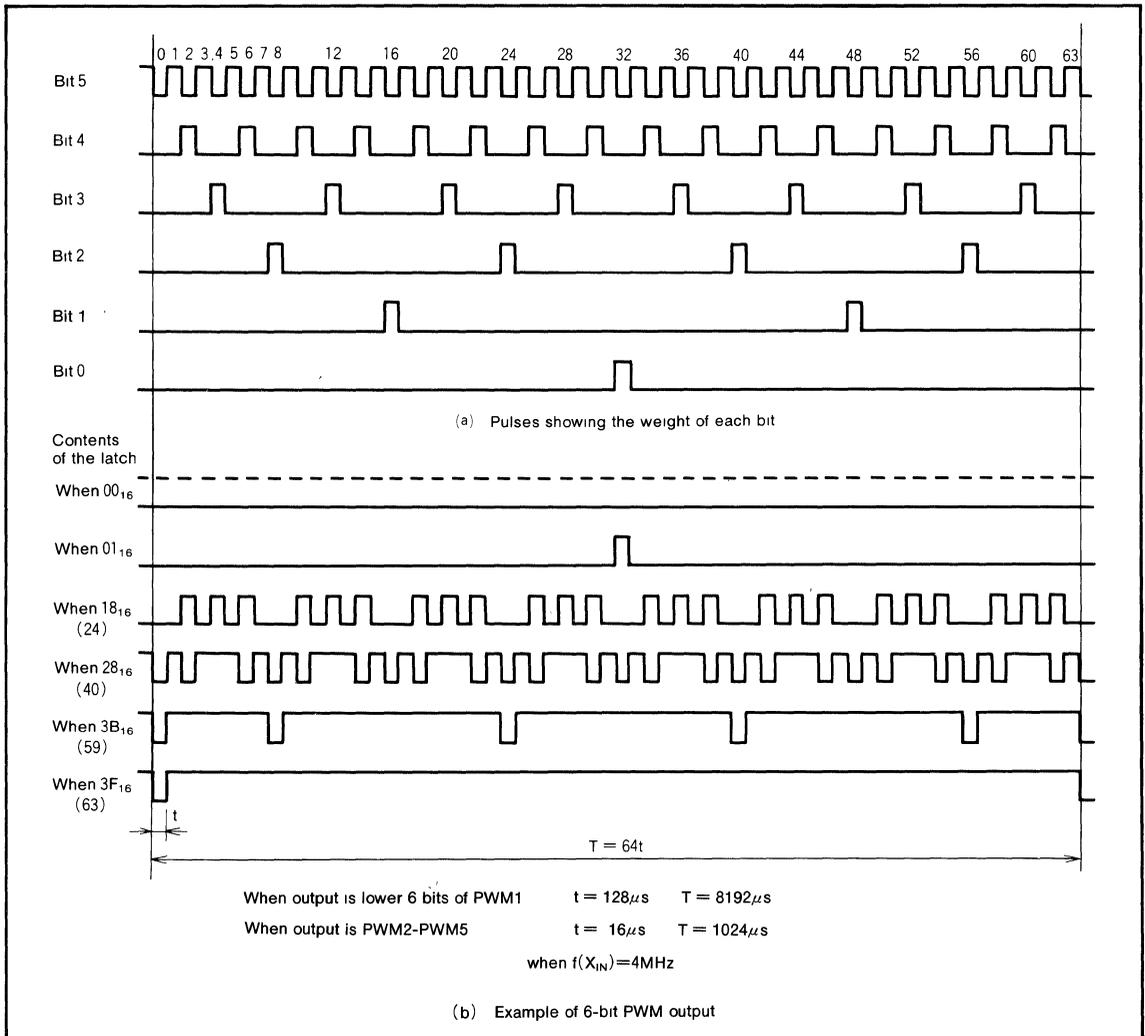

Fig. 15 6-bit PWM timing diagram
(4) Operation of the 6-bit PWMs
The timing diagram of the two 6-bit PWMs (PWM2-PWM5) is shown in Figure 15. One period (T) is composed of 64 (2⁶) segments.
There are six different pulse types configured from bits 0 to 5 representing the significance of each bit. These are output within one period in the circuit internal section. Refer to Figure 15 (a).
sum of each of these pulses. Several examples are shown in Figure 15 (b). Changes in the contents of the PWM latch allows the selection of 64 lengths of high-level area outputs varying from 0/64 to 63/64. An length of entirely high-level output cannot be output, i.e. 64/64.